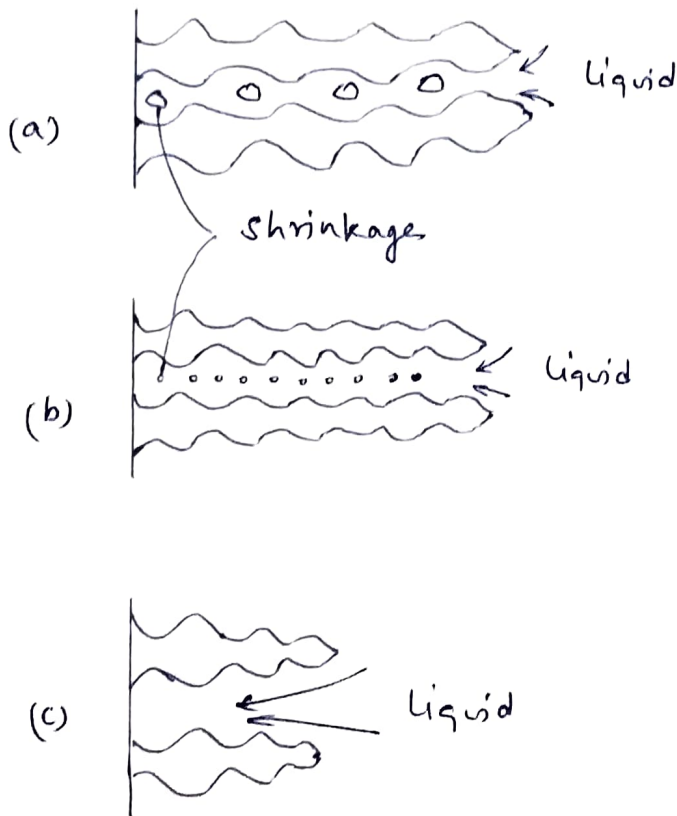

Fig 17: (a) Shrinkage can occur between the dendrite arms. Small secondary dendrite arm spacings result in smaller, more evenly distributed shrinkage porosity.
Interdendritic shrinkage is found when extensive dendritic growth occurs (fig 17). (13)